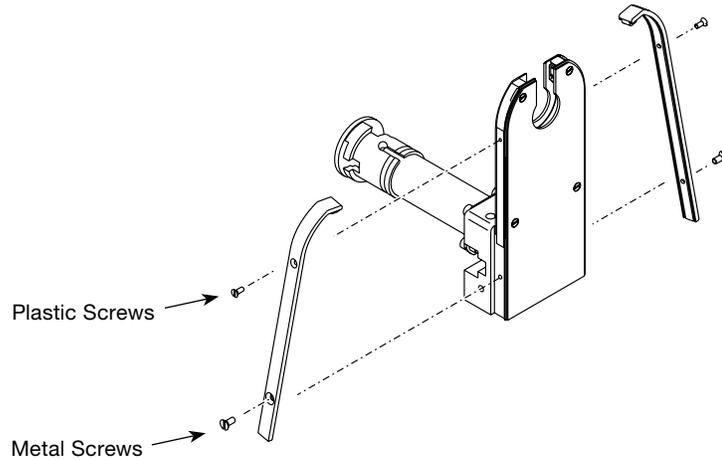

Figure 55 *Installing Side Shields*
8. Position the hooked end of the side shield into the recess at the top of the insert and clamp the side shield down. See Figure 55.